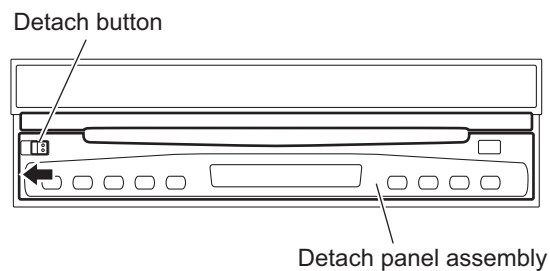

Fig.1
3.1.1 Removing the detach panel assembly (See Fig.1)